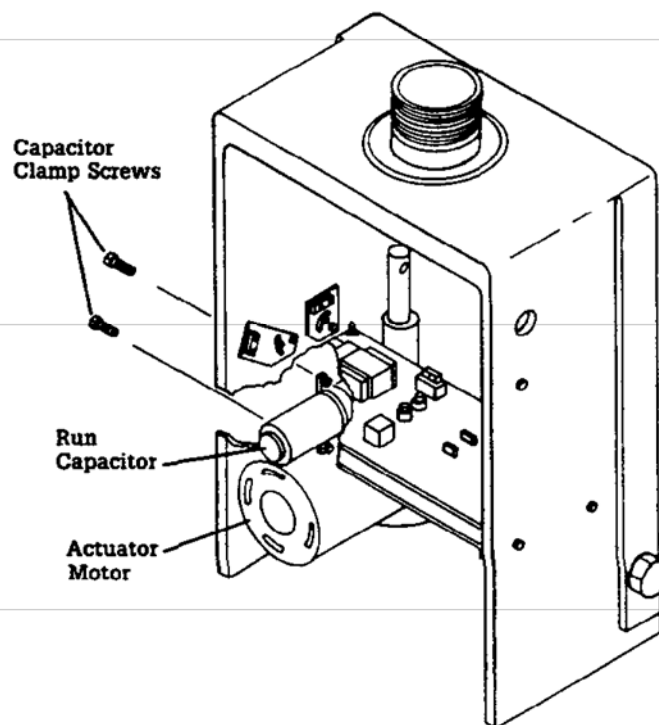

Figure 4
6. Loosen the two screws holding the run capacitor clamp to the upper pivot interface. (See Figure 4.) Do not completely remove the screws.